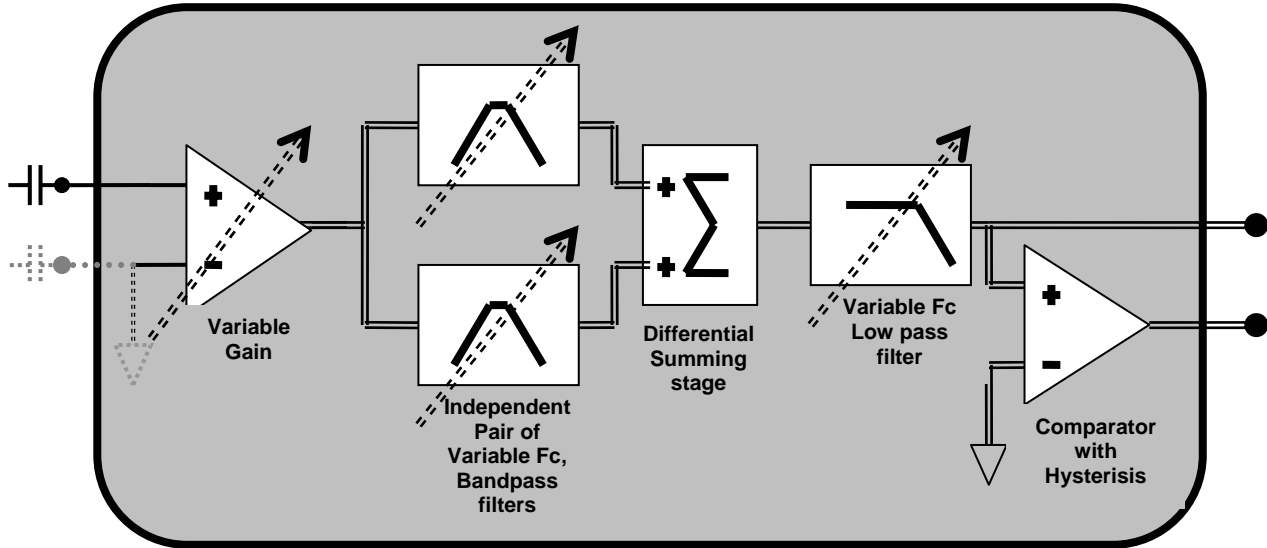

Fig 2: EPC Gen 2 analog baseband processing circuit
- the EPC Gen2 baseband processing circuit (see section 1.2, Fig 2)